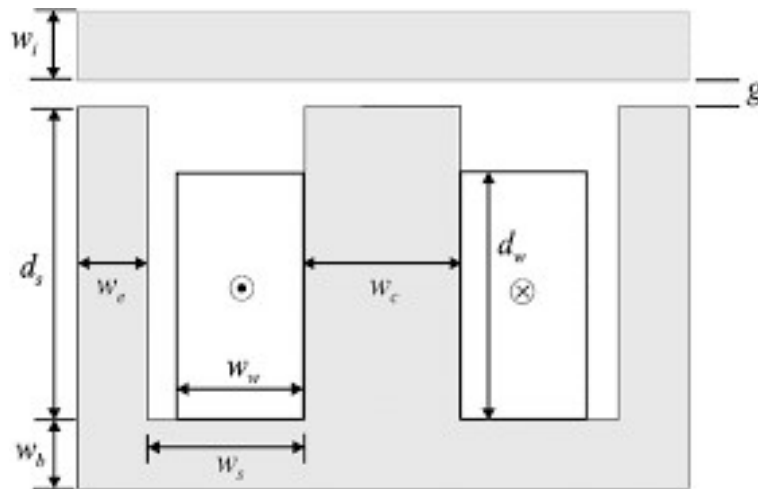

Figure 2.2. Output filter inductor winding and gap details for EI lamination.
- 3) To get good performance with inductor, it should be used, with air gap like as Figure 2.2.